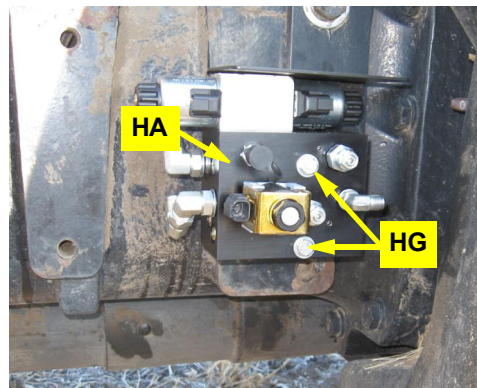

Figure 2b: Installed steering block
- b. Using hardware **HG** mount prepared hydraulic steering block **HA** against mounting bracket **HF**. Position the hydraulic block with its left/right solenoids upwards (Figure 2b).